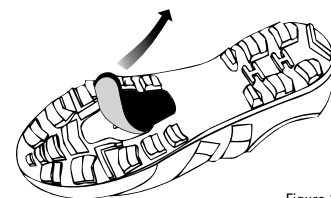

Figure 1
1. If there is a cover over the cleat area of the sole, remove the cover from the shoe using a pair of pliers (fig. 1).